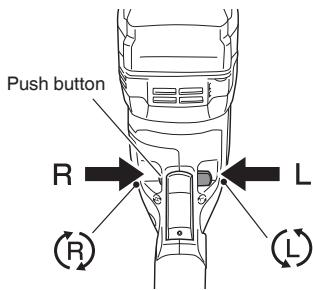

Fig. 5
- When turning the rotary hammer on while dust collector (B) is detached from a concrete surface, dust collector (B) will rotate together with the drill bit. Make sure to turn on the switch after pressing the dust cup on the concrete surface. (When using dust collector (B) attached to a drill bit that has more than 190 mm of overall length, dust collector (B) cannot touch the concrete surface and will rotate. Therefore, please use dust collector (B) by attaching to drill bits which have an overall length of 166 mm or less.)
- Please replace the drill bit after removing dust collector (B).
6. Confirm the direction of bit rotation (Fig. 5)